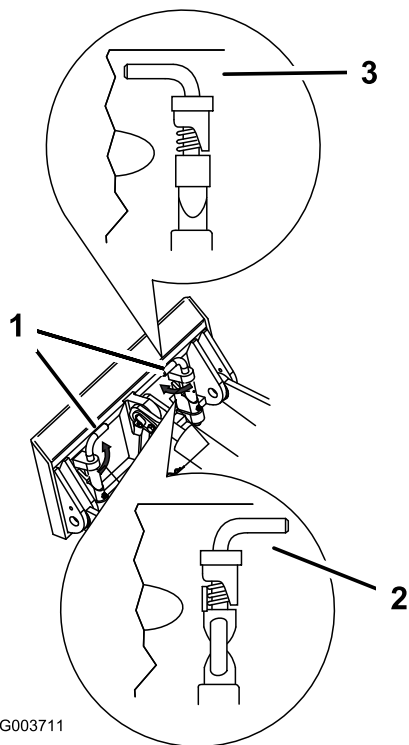

Figure 21
7. Engage the quick attach pins, ensuring that they are fully seated in the mount plate (Figure 21).